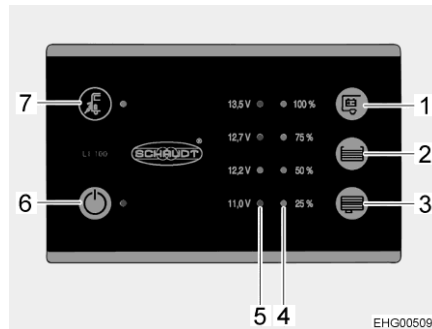

Fig. 67 Panel (LT 100)
The yellow LED at the mains connection symbol "⚡" (Fig. 67,7) is lit when the vehicle is connected to an external mains supply. In this case, the LED will also be lit when the panel is switched off.
The 12 V main switch (Fig. 67,6) switches the panel and the 12 V power supply of the living area on and off.
- Press switch "⏻" (Fig. 67,6): The 12 V living area power supply is switched on. The LED lights up green.
- Press switch "⏻" (Fig. 67,6) again: The 12 V living area power supply is switched off. The LED goes out.
The LED array (Fig. 67,5) displays the battery voltage of the living area battery as follows:
- Press the button " " (Fig. 67,1): The battery voltage of the living area battery is displayed.
The LED array (Fig. 67,4) displays the fill level of the fresh water tank or of the waste water tank.
Display fill level: Press the button "☰" (Fig. 67,2): The fill level of the fresh water tank is displayed by lit LEDs.
Press the button "☷" (Fig. 67,3): The fill level of the waste water tank is displayed by lit LEDs.